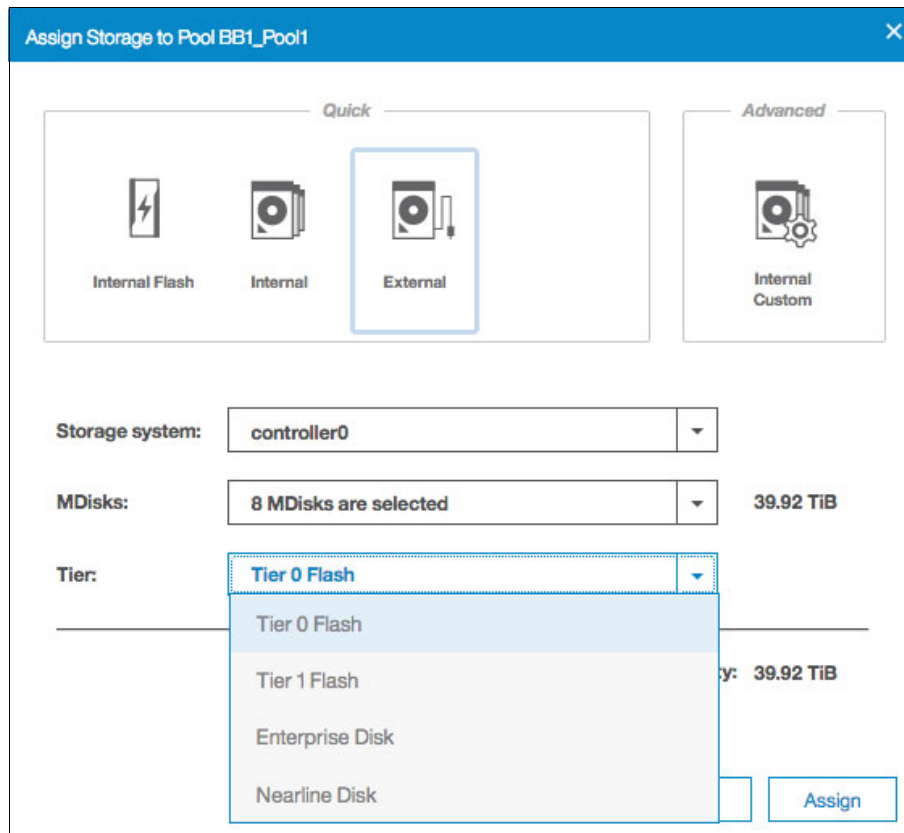

Figure 3-14 EasyTier level selection
8. Move to the next drop down to select the EastTier tier level. For V9000 AE3 enclosures, this is Tier 0 Flash, as shown in Figure 3-14 on page 77.